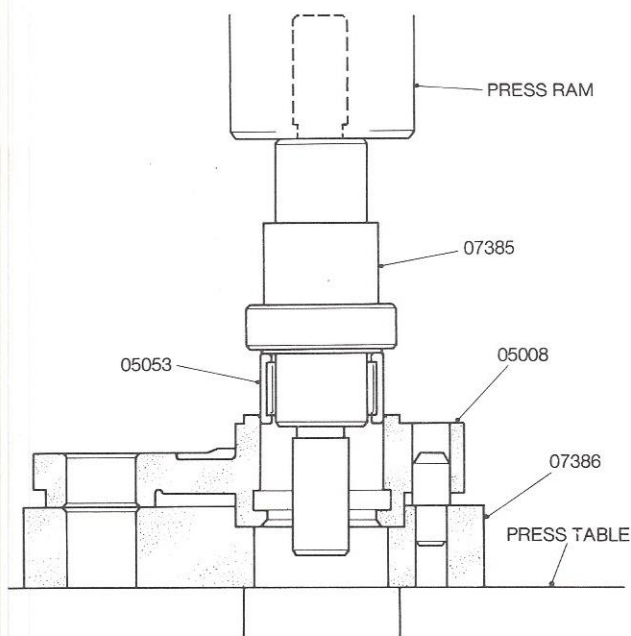

Figure 10 Assembly of the Layshaft Carrier Needle Roller Bearing
- 9.1.3 Locate the Needle Roller Bearing in the mouth of the hole in the Layshaft Carrier, centralise the assembly under the press ram and press the Bearing in until the Assembly Press Tool touches the Layshaft Carrier. See Figure 10.